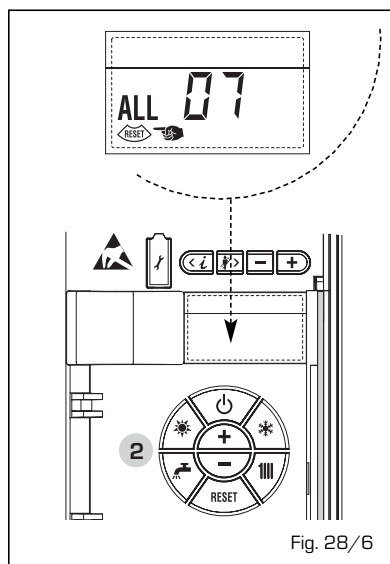

Fig. 28/6
**- ANOMALIA FIAMMA PARASSITA "ALL 08" (fig. 28/7)**